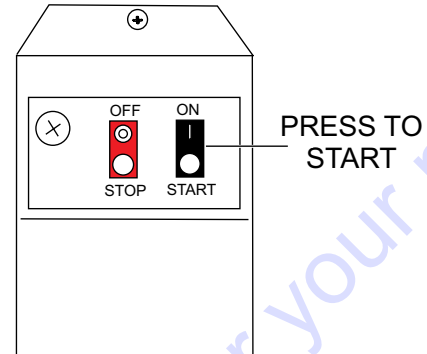

Figure 23. Electric Motor ON/START Switch
- To start the electric motor, press the **BLACK ON/START** switch (Figure 23).